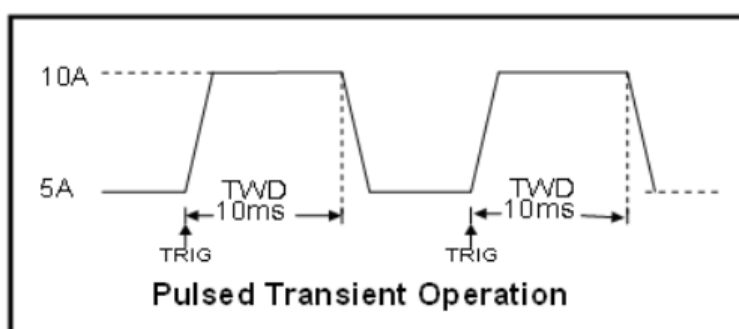

Figure 7-2-3 Pulsed Transient Operation
2. Pulse mode: the electronic load uses the low value to load at first, and then the electronic load switches to the high value when it receives a trigger signal for each time. After maintaining the set time, the electronic load switches to the low value. The electronic load only toggles once when it receives a trigger signal for each time, so there's no need to set the time of the low range. The pulse mode interface is shown in Figure 7-2-3.